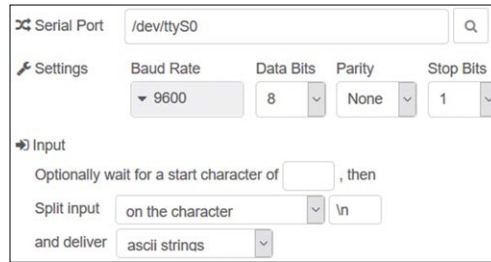

Figure 14.11 Configure node serial out
- Create a **serial out** node and configure it as shown in Figure 14.11